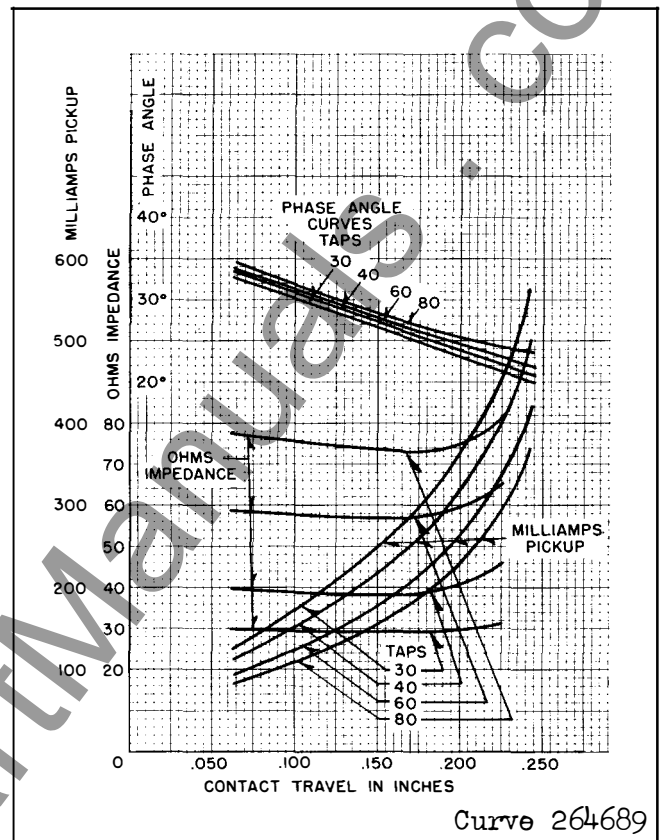
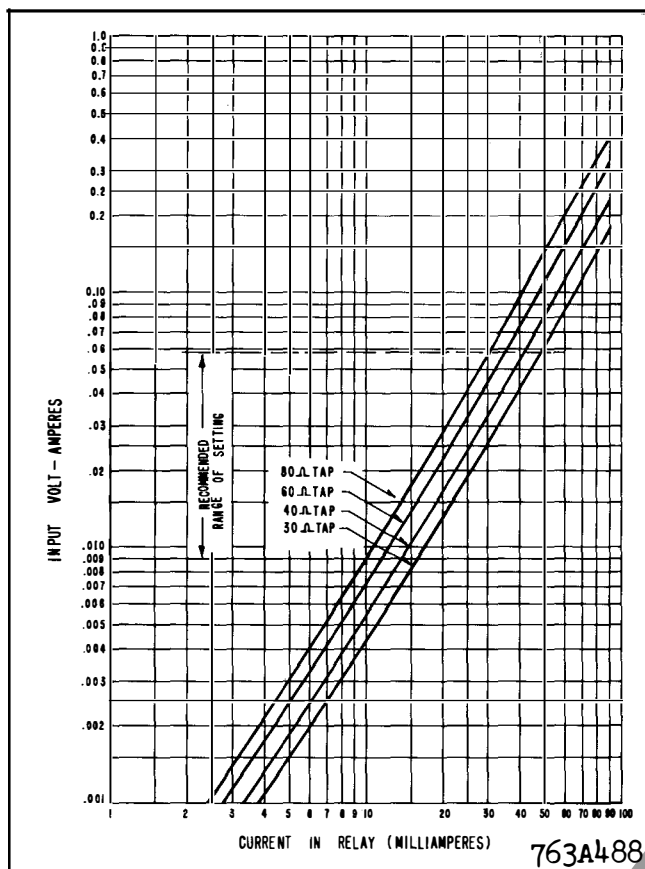
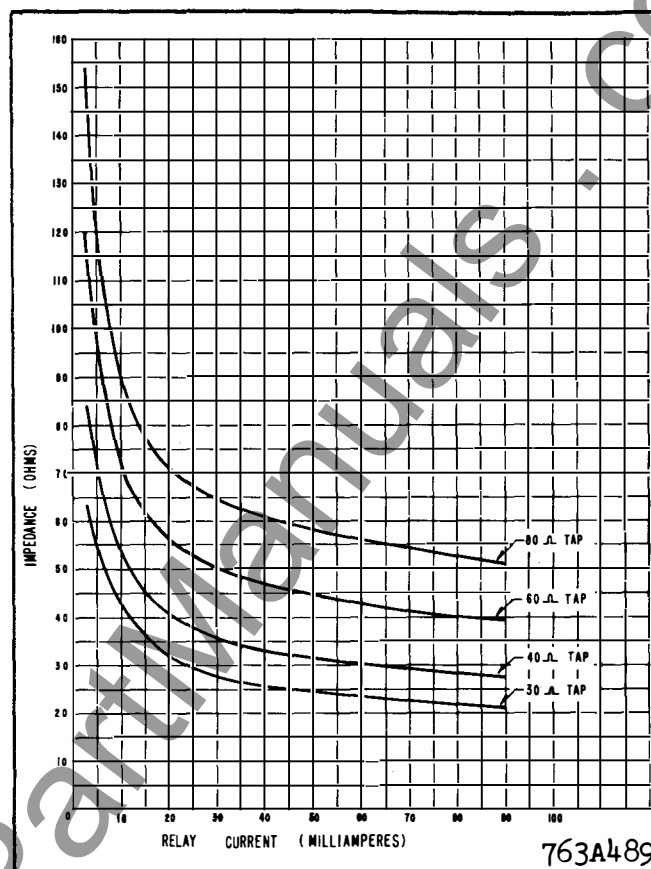

Fig. 4. Typical LC-1 Characteristic Curves.
Fig. 5. Typical LC-2 Volt-ampere Curve.
Fig. 6. Typical LC-2 Impedance Curve (Impedance is at 22° angle).
Characteristic curves are shown in figures 4, 5 and 6. The use of these curves is described under "Setting Calculations". LC-1 sensitivity is about 0.5 V.A. and up. The type LC-2 relay may be set to operate at an energy level ranging from .062 to .0085 volt-amperes. It may also be used to an energy level as low as .0025 V.A. with limitations which will be discussed. This range of application is shown on the typical volt-ampere curves of Fig. 5. Typical impedance curves are shown in Fig. 6. The phase angle of the relay is substantially constant (within 3°) at 22° .
Equation (3) is used to determine the current at which the relay trips for an internal fault on the bus of magnitude, I_p . Equation (4) is used to determine the primary current necessary to trip the relay when it has been adjusted to trip at a known value of relay current. It should be noted, however, that the relay impedance is not constant, but varies with relay current as indicated in Figs. 4 and 6. Therefore, in using equation (3), it is desirable to assume a value of relay impedance equal to the impedance tap, and make a first calculation of the relay current. When this is obtained, a new value of relay impedance should be selected from Fig. 4 or 6 and a second value of relay current calculated. Usually, it will not be necessary to continue the calculation any further, as the values resulting from the second calculation will be sufficiently accurate.
Reference to Figure 4 indicates that the relay can be set to operate at .102 (or 0.100 ampere on either the 60 ohm or 80 ohm tap. Since the desired value is near the minimum obtainable, choose the 60 ohm tap as being the closest match to the value of 57.8 for NZ_C , and make a second more accurate calibration. Using the 60 ohm tap and a contact travel of .075", values read from the curve give a pickup current $I_r = 0.100$; $Z_r = 58.3$ ohms, and an impedance angle of 33° for Z_r .
This is within the recommended setting range of the relay as indicated in Fig. 5.
From Fig. 6, on the 60 ohm tap, at $I_r = .0221$ $Z_r = 54.5 / 22^\circ = 50.6 + j20.4$.
At $I_r = .0232$ on the 60 ohm tap, Fig. 6 indicates that $Z_r = 54$ ohms. Since a value of $Z_r = 54.5$ was used in the above calculation, it is not necessary to carry the calculation any further.